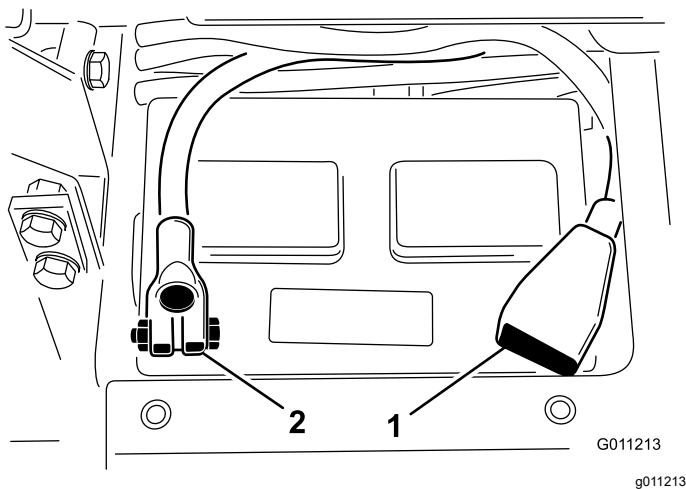

Figure 5
4. Install the positive cable (red) to the positive (+) battery terminal, and secure them with T-bolt and nut (Figure 5).
5. Install the negative cable (black) to the negative (–) battery terminal of the battery, and secure them with T-bolt and nut (Figure 5).